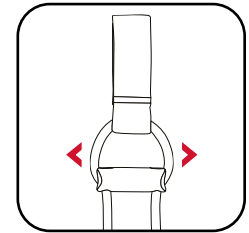

Fig 1
1. Unclick the elasticated straps from the housing by pulling outwards in the direction shown (fig. 1)